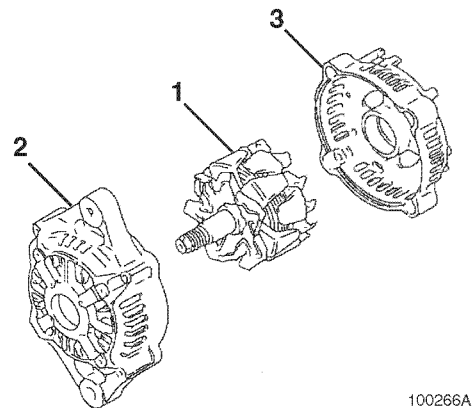

Figure 12-9
- Using a press, remove the rotor assembly (Figure 12-9, (1)) from the front frame housing (Figure 12-9, (2)) and rear frame housing (Figure 12-9, (3)).